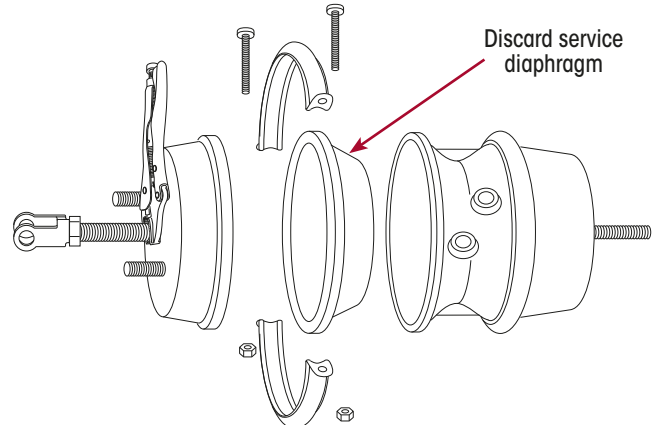

Figure 104: Brake Chamber Disassembly
11. Disassemble brake chamber. Refer Figure 104.